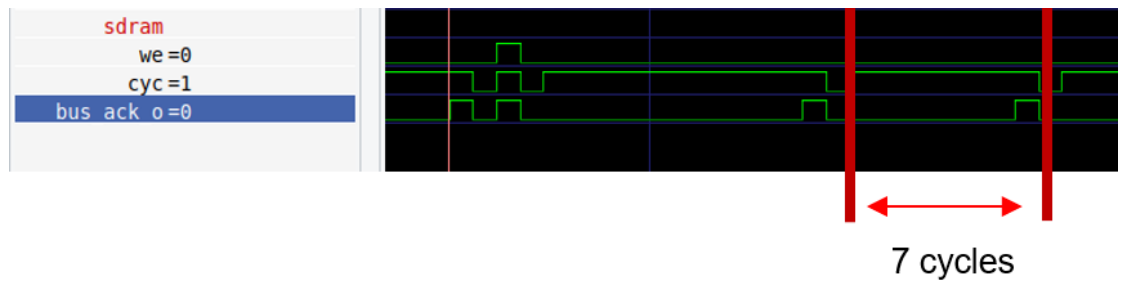

Figure. 12. Read data
(1) Why cause the cycles increase?
From Figure 12, we observe that the wishbone (WB) cycles entering SDRAM during the read data phase take 7 cycles each. This delay is attributed to the 3T internal CAS latency of SDRAM combined with 4 layers of buffers. Consequently, even with an external prefetch buffer, its effectiveness is limited as it gets emptied before it can be refilled due to the fast-reading pace.